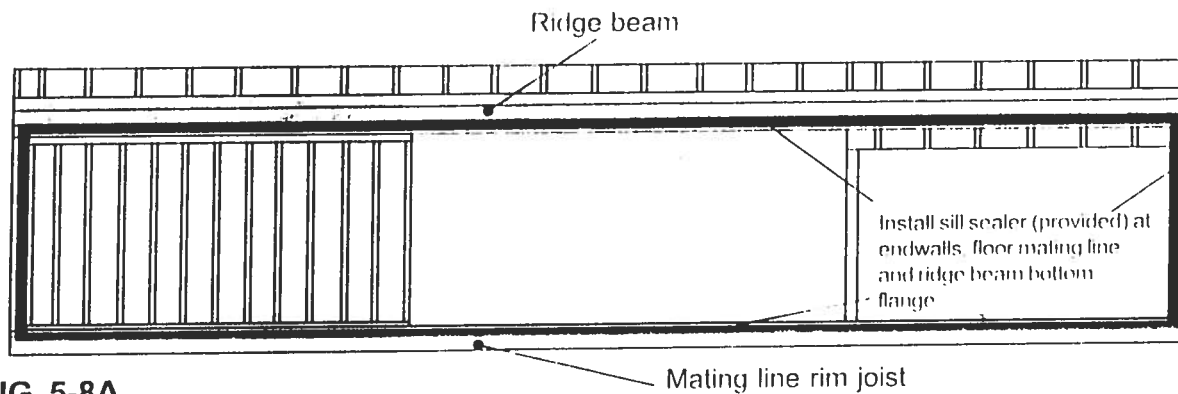

FIG. 5-8A
3. Install sill sealer insulating material (provided) around the home (to the ridge beam at the ceiling panel line), endwalls and/or mating line. Fasten sill sealer with staples or nails (see Figure 5-8A).